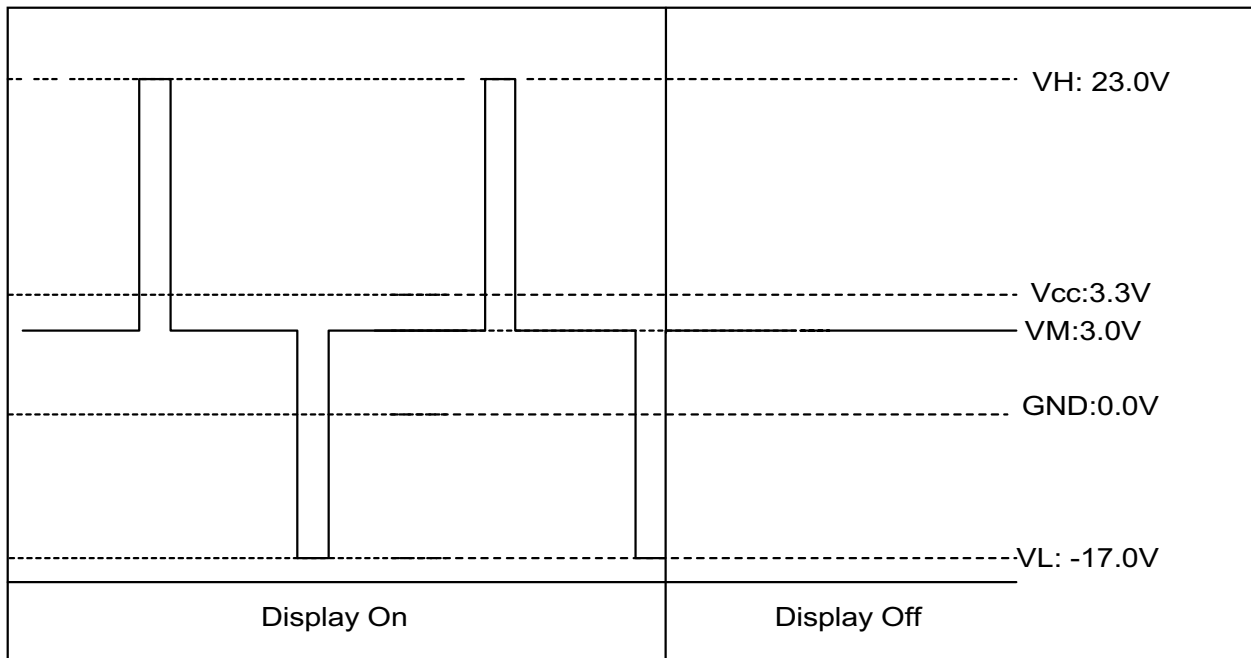
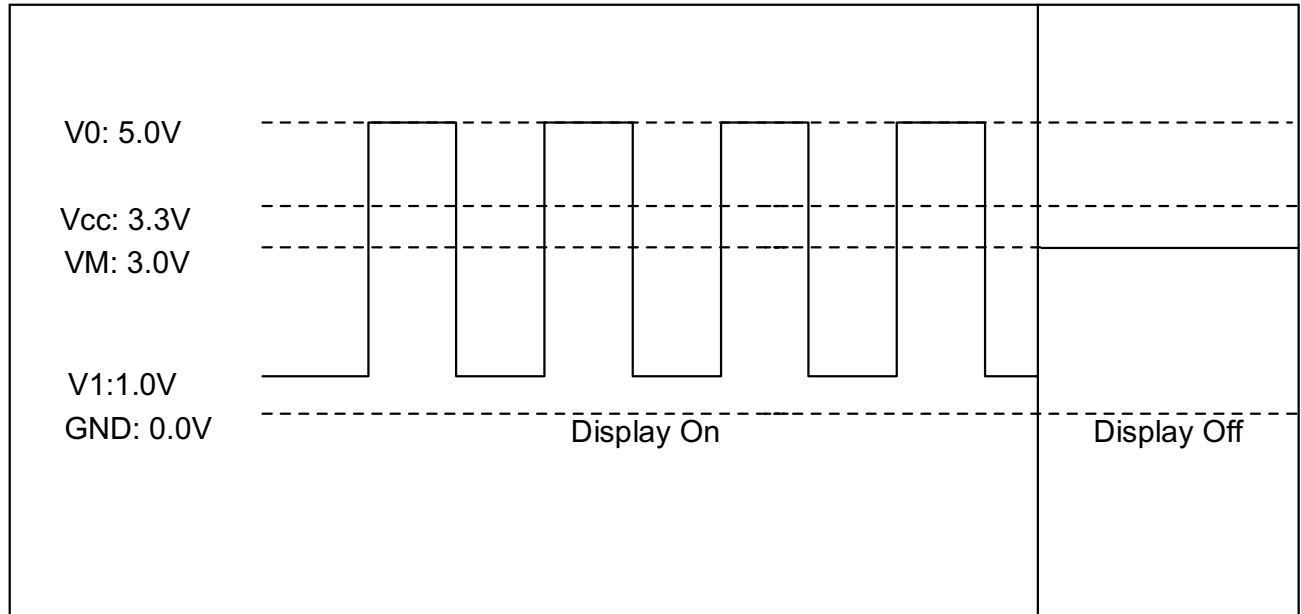

Figure 7-3. LCD Common Drive Output Waveform & Voltage Level
Figure 7-4. LCD Segment Drive Output Waveform & Voltage Level
4. The voltage of each signal is illustrated in Figure 7-3 and Figure 7-4.